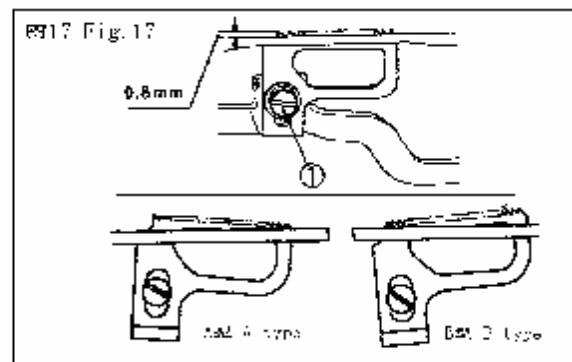
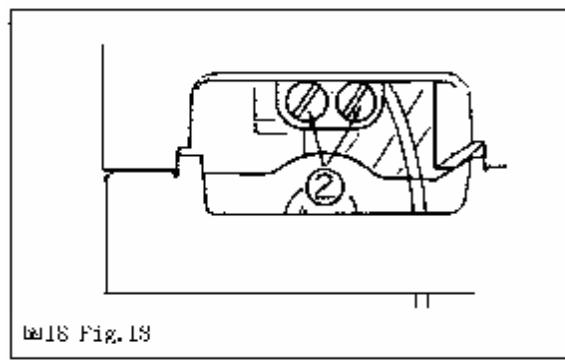

图17 Fig. 17
图18 Fig. 18
#### 十四、送料牙的调节(图17, 图18)
旋松图18所示螺钉②, 送料牙的倾角即可调节成标准型、A型、B型, 送料牙最大突出量是0.8mm, 用图17中螺钉①调节。
#### 14. Adjustment of the height of the feed dog(Fig. 17 and 18)
Loosen the set screw ② , as shown in Fig. 18, the angle of the feed dog can be adjusted to the specified one of standard version, A version, and B version. The Max. height of 0.8mm of the projection from feed dog is adjustable by the adjusting of screw ① as shown in Fig. 17.